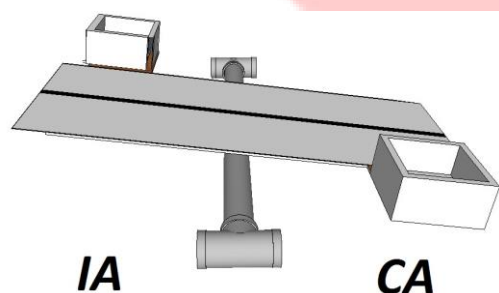
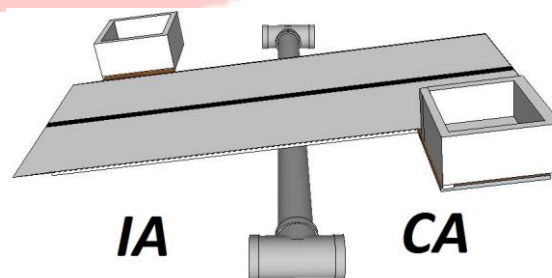

Figure 5a: Bridge tilted towards CA
Figure 5b: Bridge tilted towards IA
- Weight blocks when added to a Container will tilt the seesaw bridge to the respective side. Note that **Orientation** of the bridge can be either “tilted toward CA” as shown in Figure 5a or “tilted toward IA” as shown in Figure 5b.